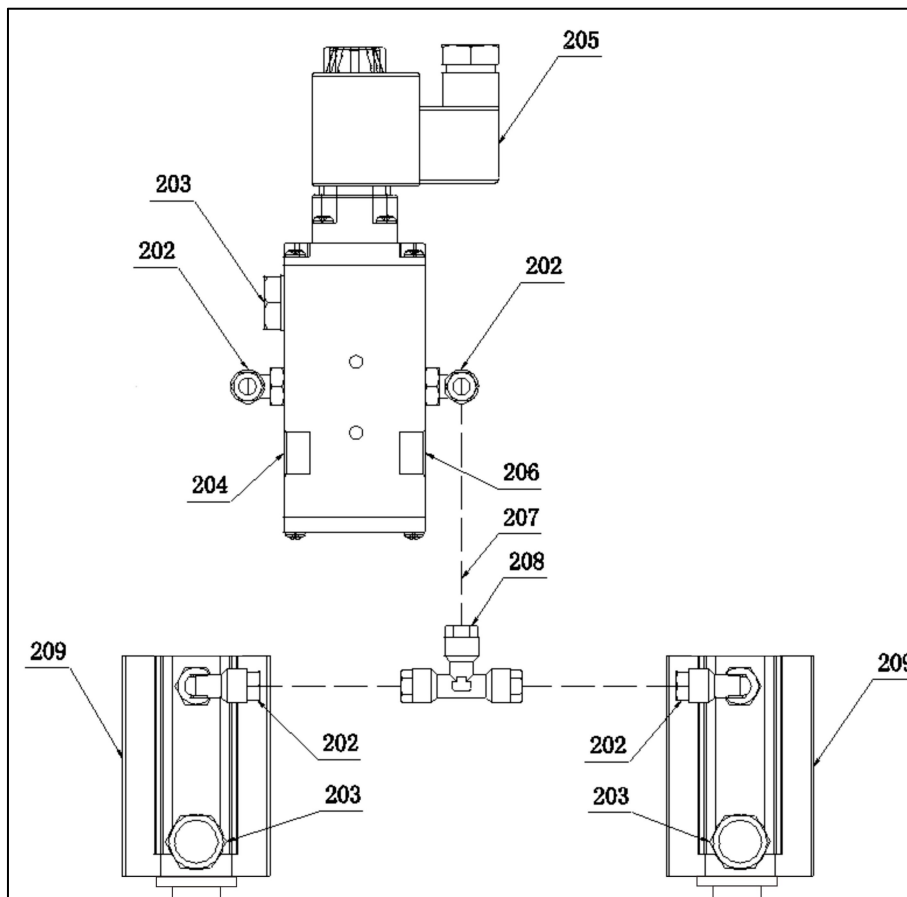

Fig 18 (Connection of one-layer cylinder)
- Lead the Ø6×5 compressed air pipe out from the air outlet of the pneumatic solenoid valve of main lift and then connect it to the uplifted-pawl air valve of the main lift (Fig. 18) according to the Air Circuit Connection Diagram.